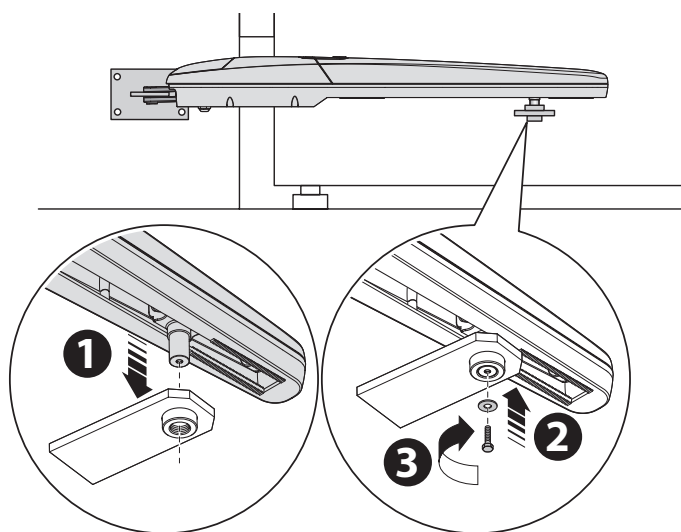

Fig. 7
01. Secure the gearmotor to the bracket as shown in fig. 7, using the screw and the washer supplied;